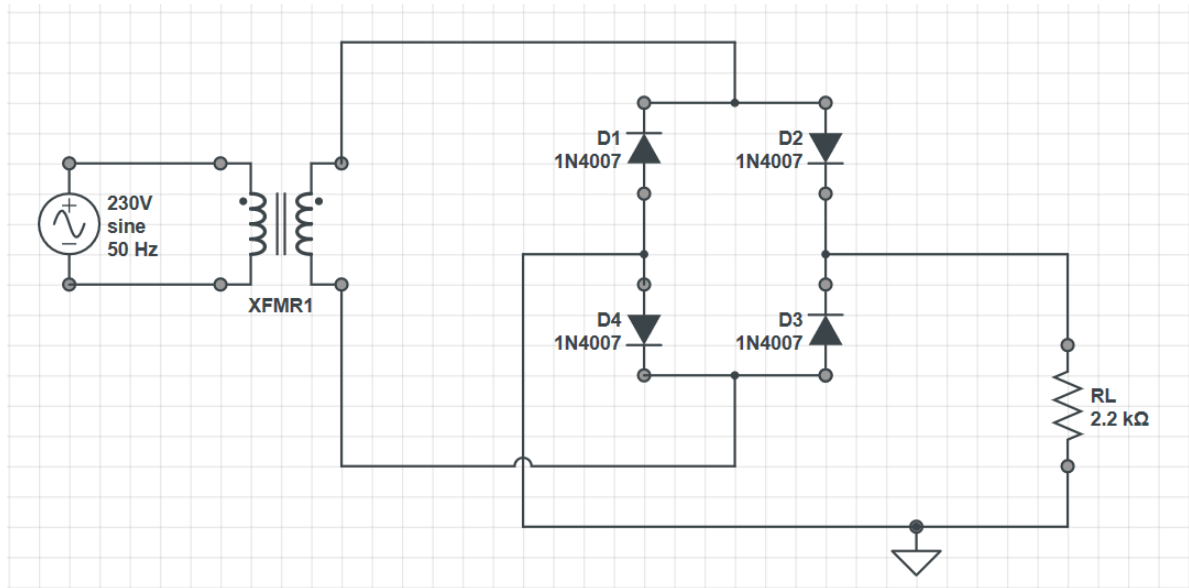

Figure-3: Full wave Rectifier without Filter
1. Connect the circuit as per the Figure-3.